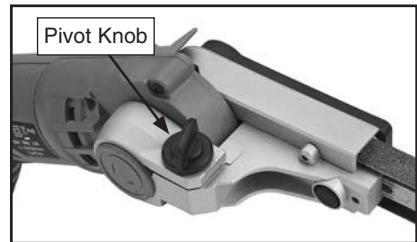

Figure 3. Pivot knob location.
2. Tighten pivot knob shown in **Figure 3**.